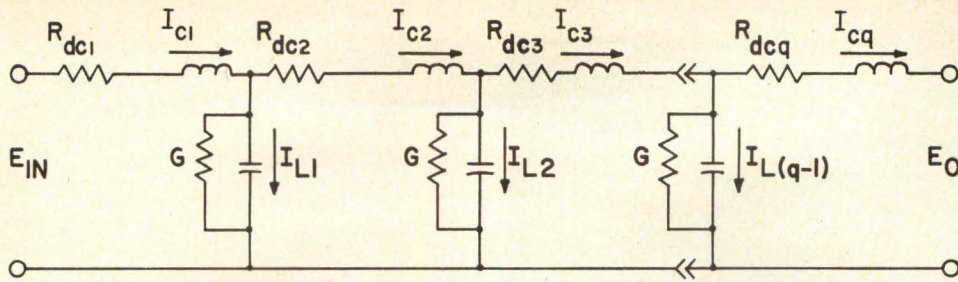

Fig. 5 Equivalent circuit for attenuation analysis.
Where I_{ck} is the current flowing through the k cell, and $R_{dc}k$ is the dc resistance of the k cell. Referring to Fig. 5, which represents the delay line, it is noticed that the current in each cell (I_{ck}) is less than the current in the preceding cell by the factor of $I_{L(k-1)}$. By assuming a linear decay in delay line current, we may set $I_{L1} = I_{L2} = I_{L(q-1)}$. Referring to Equation (9):